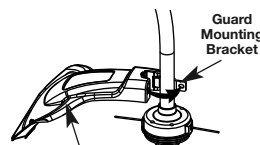

Fig. 4
- Place the cutting attachment shield onto the shaft housing. Be sure the guard mounting bracket slides into the slot on the edge of the cutting shield. Rotate the shield into place, counterclockwise (Fig. 4). The holes in the guard mounting bracket and cutting attachment shield will line up.